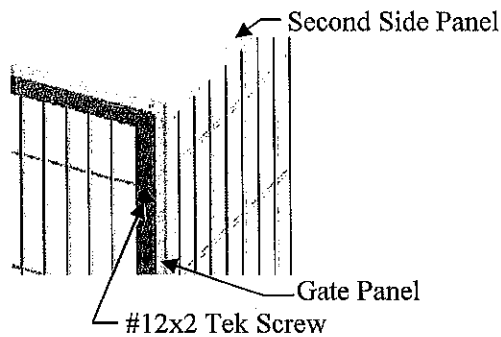

Figure 7
3. Attach the Second Side Panel to the Gate Panel using 2" Self-Drilling Tek Screws through the pre-drilled holes (**Figure 7**).